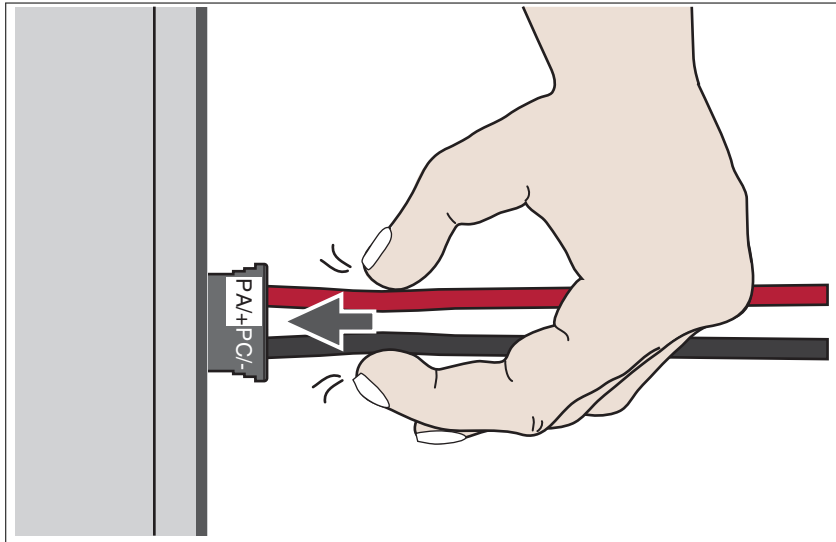

Figure 10: Unlocking the DC bus connector
- ▶ Push the two wires towards the connector (see *Figure 10*).